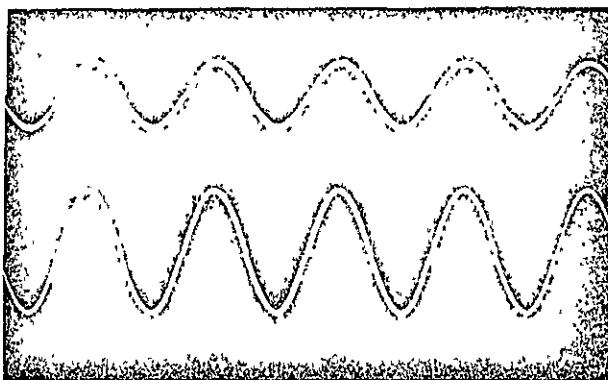

Figure 5-6. A1TJ1 Audio In (top)
5.3.1.3.3 Audio Level Adjustment (refer to Figure 5-6)
Waveforms of signals at module test jacks, Figures 5-6 through 5-54.